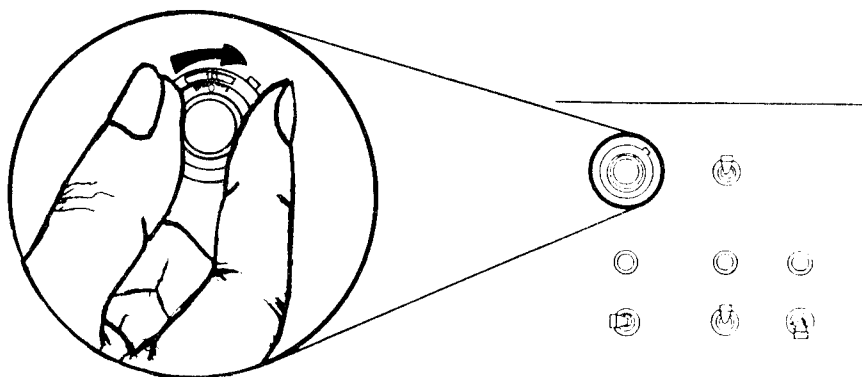

Figure 4. Turn Dial to 10
- d. Adjust the COMPLIANCE LEVEL potentiometer dial to "10" by turning the dial fully clockwise (CW). You may need to unlock the control by pushing up on the lever at the base of the dial to make this adjustment. Reset the lock when the dial is set (see Figure 4).